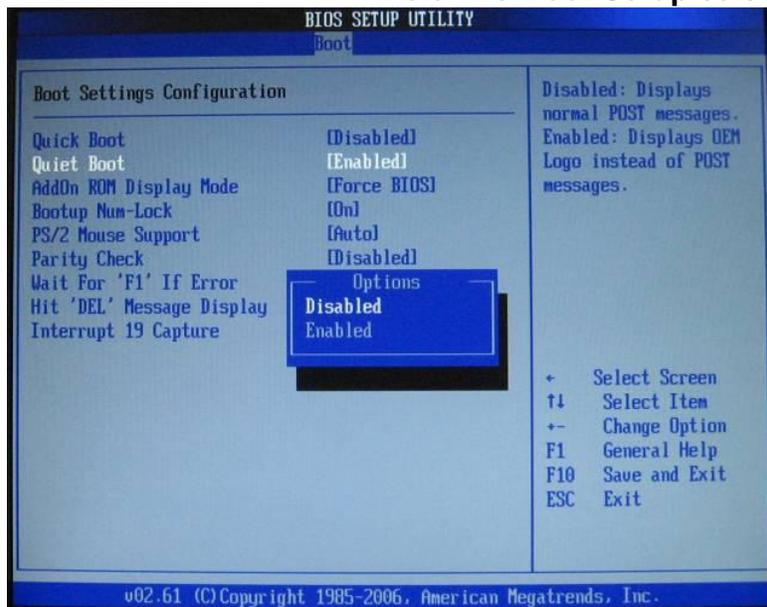

Figure 8-45 Boot Settings Configuration Popup Screen
35. On the **Boot Settings Configuration** **Popup** screen, select **Disabled**. Press **Enter**. (Figure 8-45). Then press **Escape** to return to **Boot Setup** screen.